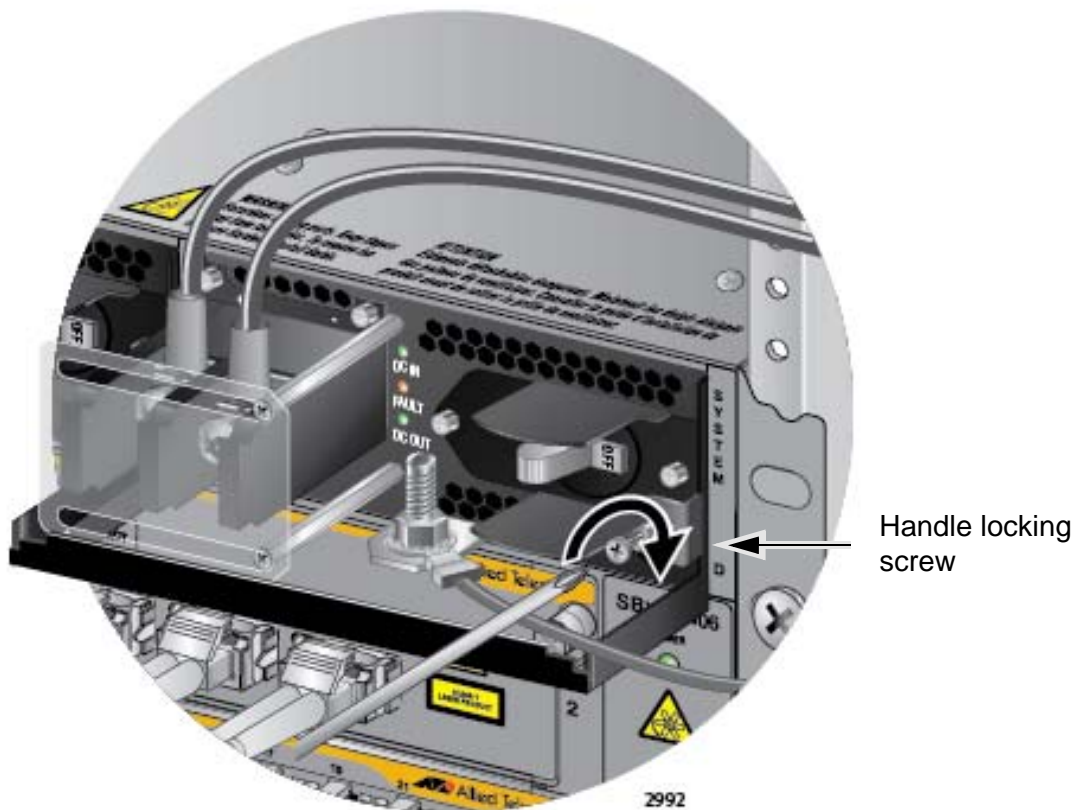

Figure 140. Tightening the Handle Locking Screw
9. With a #2 Phillips-head screwdriver, tighten the handle locking screw to secure the power supply to the chassis. See Figure 140 on page 216.
7. With a #2 Phillips-head screwdriver, tighten the handle locking screw to secure the power supply to the chassis. See Figure 140 on page 216.